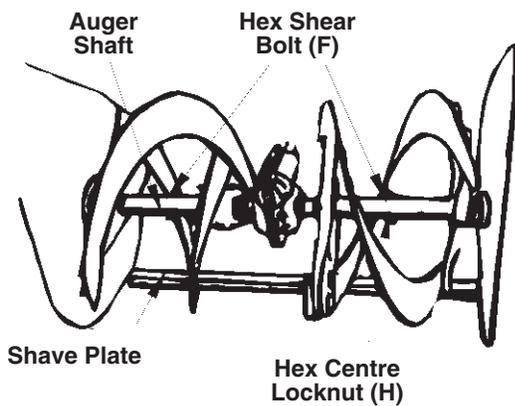

FIGURE 3.
1. The augers are secured to the spiral shaft with two shear bolts and hex locknuts. See figure 3. A direct impact of an object will usually cause the shear bolts to shear however, if you ingest an object between the augers/impellers and housing you may cause damage without shearing bolts. Keep clear of foreign objects.
2. If the augers will not turn, check to see if the hex bolts have sheared. Two replacement hex bolts (F) and hex lock nuts (H) have been provided with the snow thrower. When replacing bolts, spray an oil lubricant into shaft before inserting new bolts.